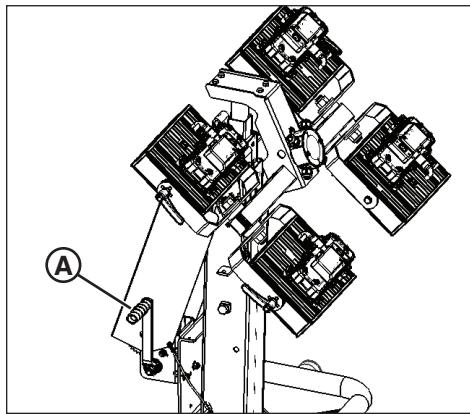

Figure 11
2. Turn the tower winch (**A**, Figure 11) until the tower is fully raised.
3. Turn the tower winch (**A**, Figure 11) until the tower is fully lowered.